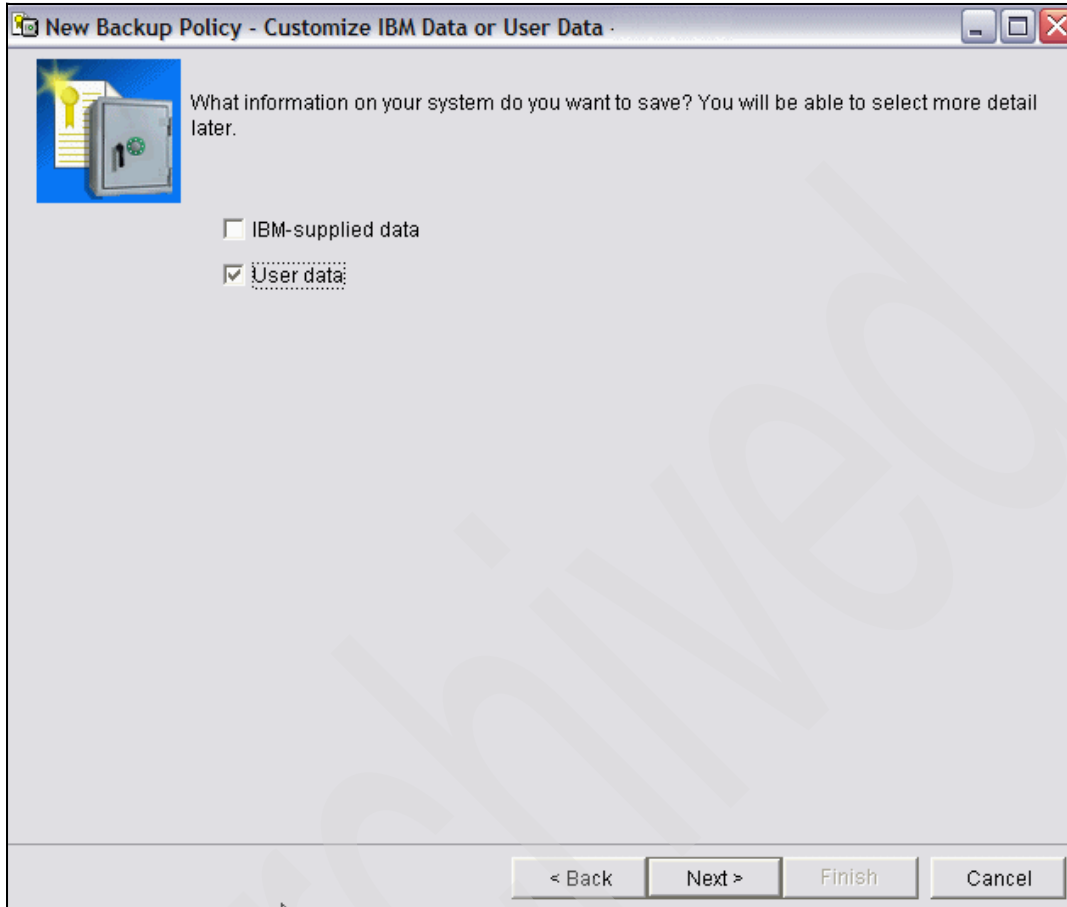

Figure 7-16 Customize IBM-supplied data or user data
3. The window shown in Figure 7-16 on page 348 asks if you want to save IBM-supplied data or user data. Select **User data** and click **Next**.